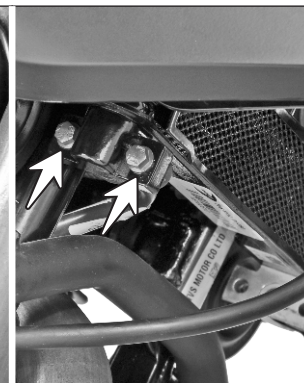

Fig. 2.59B
- Remove the hexagonal flange bolts (M6x16 - 2 nos.) mounting the pipe complete inlet with the oil cooler assembly. Dislocate and take out the pipe complete inlet. (Fig. 2.59B)